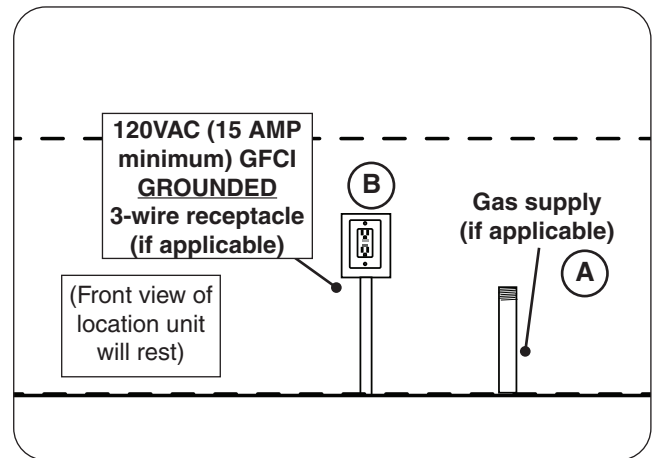

Fig. 25-1 Route gas and electrical (as applicable)
1. Ensure the gas supply is properly routed into the area that the unit will rest over (see Fig. 25-1, A).
1. Wire the receptacle into the area that the unit will rest over (see Fig 25-1, B).